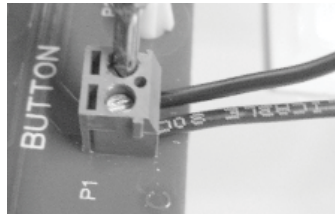

Figure 18 - Connecting the PUSHBUTTON to the INDICATOR BOARD
- ii. Connect the Pushbutton to the Indicator Board (See Figure 18)